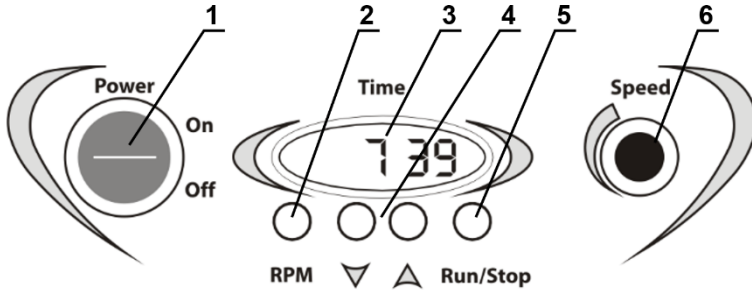

Figure 1. MR-1, control panel
- 5.1.1. Connect the external power supply to a grounded mains outlet. Switch **on** the **Power** switch (fig. 1/1). Display powers up (fig. 1/3)
- 5.1.3. **Setting time.** Using ▲ and ▼ keys (fig. 1/4), set the necessary time interval in hours and minutes (step 1 minute), as shown on the display (fig. 1/3). If a key is held down for long time, values change faster.
- 5.1.4. **Setting speed.** Using the **Speed** knob (fig. 1/6), set the necessary shaking speed. When turning the knob or pressing the **RPM** key (fig. 1/2), the display (fig. 1/3) shows speed in rockings per minute (RPM).
- 5.1.5. Press the **Run/Stop** key (fig. 1/5). Platform begins movement and timer starts counting elapsed time, for values below 1 hour- in minutes and seconds (mm:ss), above 1 hour – in minutes (hh:mm). Speed can be changed during operation.